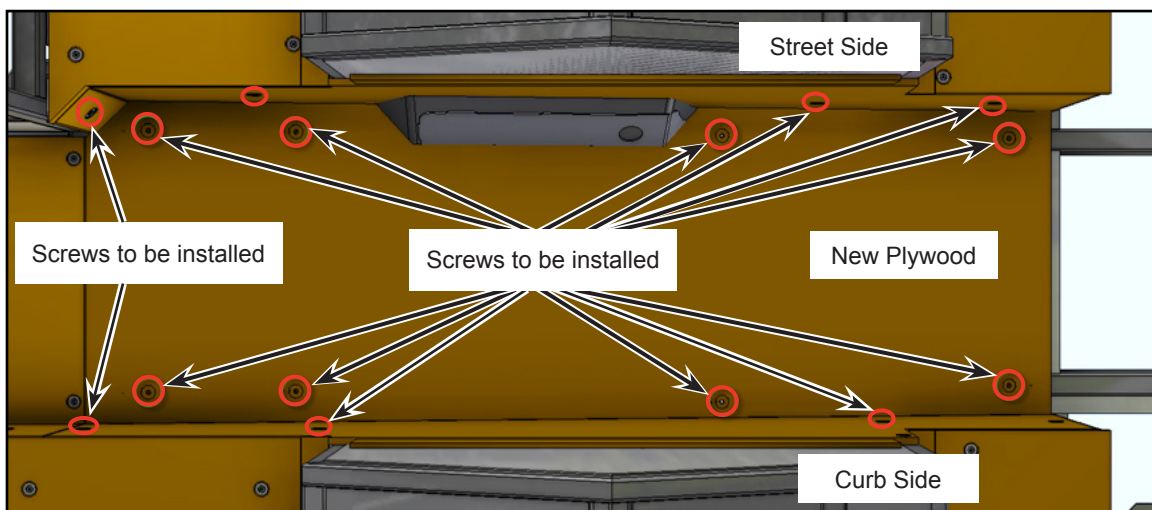

Figure 13 - Installation of Screws
- 2.42. Install screws N56489 in the slot provided on the plywood (see Figure 13).